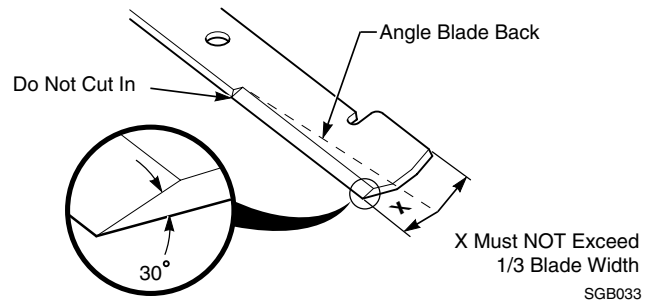

Figure 7-8. Blade Sharpening
DO NOT sharpen the blades beyond 1/3 of the width of the blade. See Figure 7-8.
1. Sharpen the cutting edge at the same bevel as the original. See Figure 7-8. Sharpen only the top of the cutting edge to maintain sharpness..